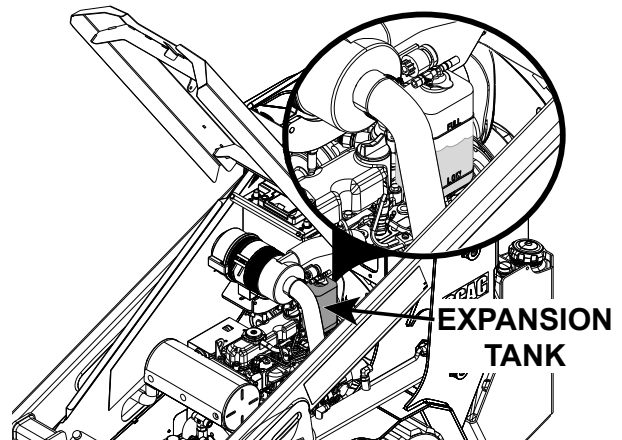

Figure 6-22. Coolant Expansion Tank
4. Check the coolant level in the expansion tank. See Figure 6-22.